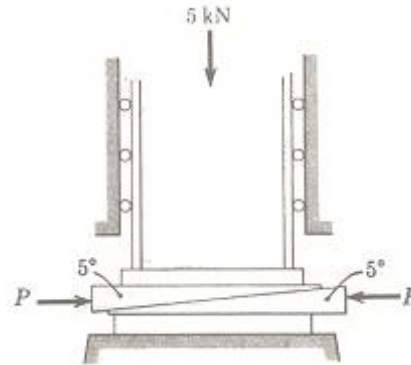

Figure 4
4. The two 5° wedges shown in Figure 4 are used to adjust the position of the column under a vertical load of 5 kN. Determine the magnitude of the forces P required to raise the column if the coefficient of friction for all surfaces is 0.40. [16]